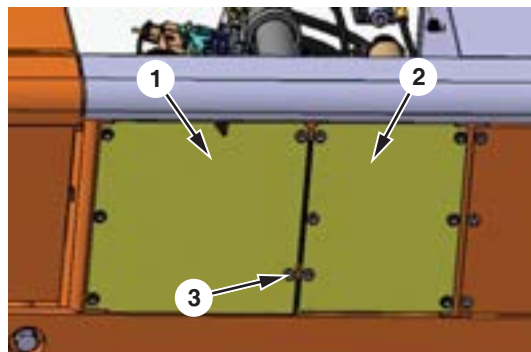

Figure 29
11. Remove bolt (3, Figure 29) (11 ea) and remove under cover (1 and 2, Figure 29) under pump side.